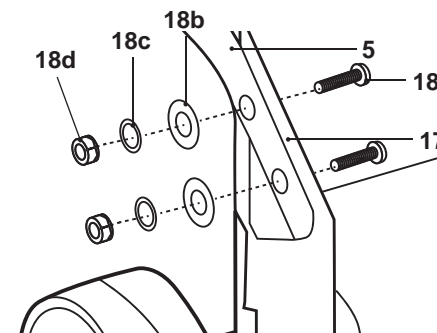

Fig. 4
6. Fix the lower handle bar (5) with the mounting sets (18) to the handle supports (17) (Fig. 4).